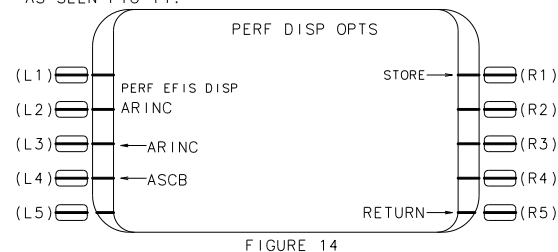

FIGURE 14
- PRESS THE PERF DISP OPTS LSK. THE PERF DISP OPTS PAGE WILL APPEAR (REF FIG 14).
- VERIFY THAT THE (L2) LSK DISPLAYS ARINC. IF NOT SELECT EDIT AND THE (L3) LSK. USING THE NUMERIC KEYPAD SELECT 2 AND PRESS ENTER. THE PERF DISP OPTS PAGE SHOULD NOW APPEAR AS SEEN FIG 14.